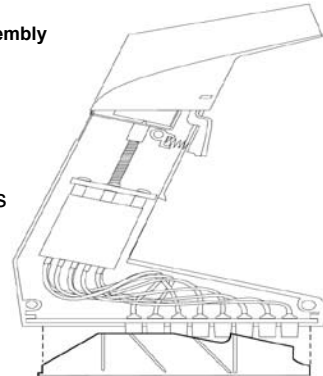

Figure F.2.3g: Attaching Ejector Comb
5. Slide the ejector comb over the tip fittings with the slots on the back of the comb exposed (see *Figure F.2.3g*).